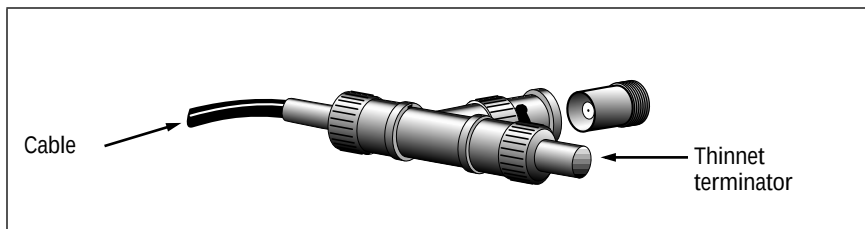

Figure 7: BNC-T with 50 Ω Terminator
2. Plug in the 10BASE2 coaxial cable. If the AT-200 series transceiver is between nodes on the cable, attach a thin coax segment to each side of the T-connector. If the transceiver is at the end of the segment, attach a thin coax segment to one side of the T and a 50Ω terminator to the other side as shown in Figure 7.